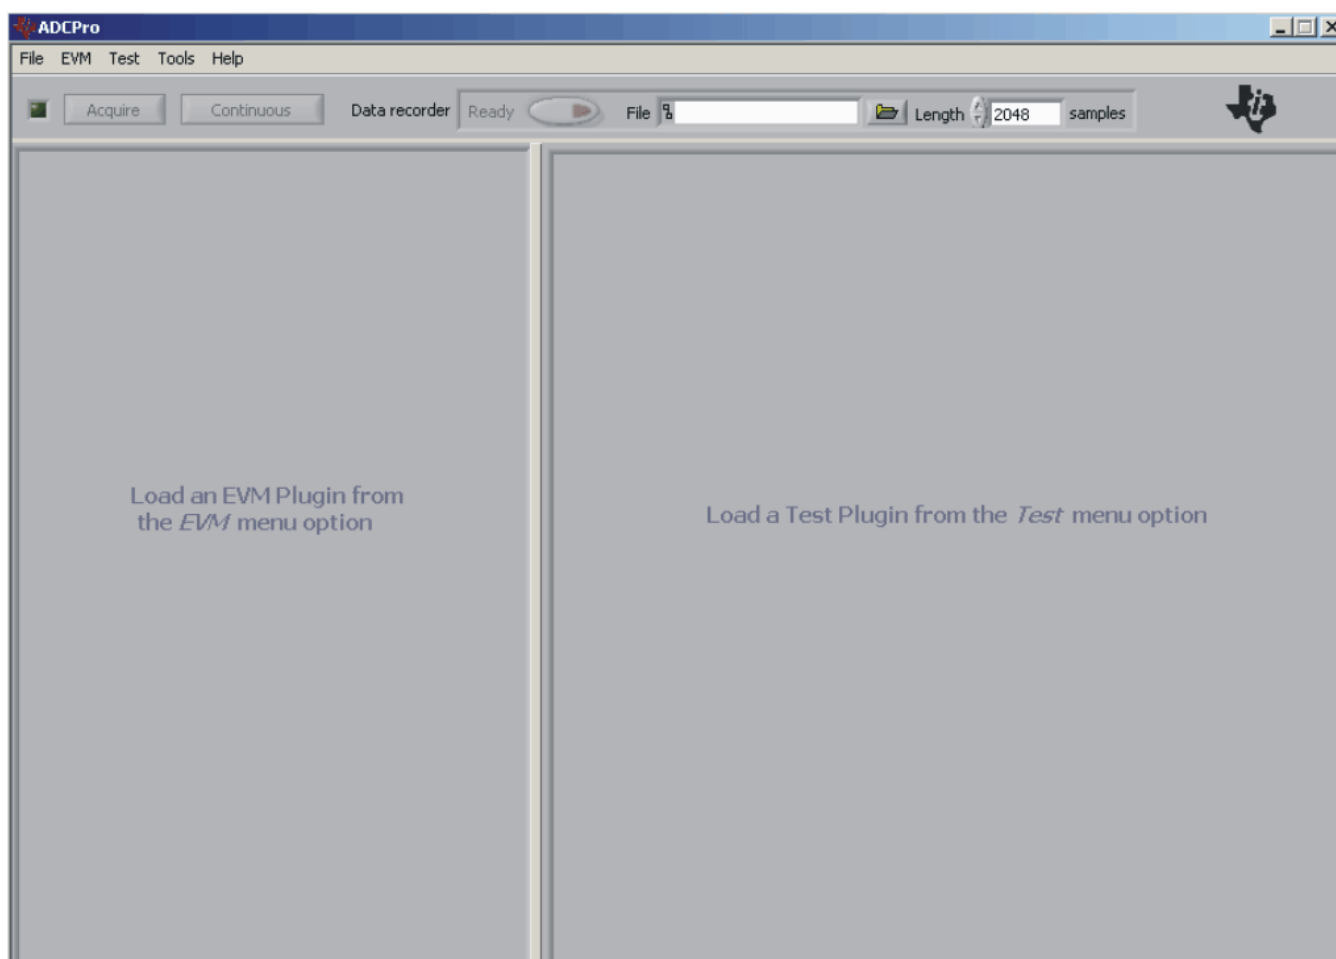

Figure 9. ADCPro Software Start-Up Display Window
- Step 1. Start the software by selecting *ADCPro* from the Windows Start menu. The screen in Figure 9 appears.